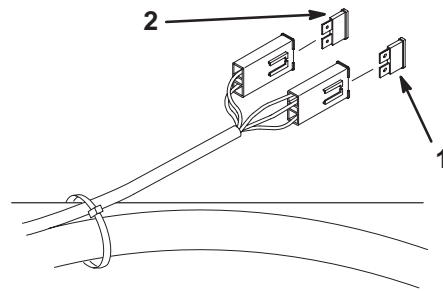

Figure 70
2. To replace a fuse, pull out on the fuse to remove it (Fig. 70).